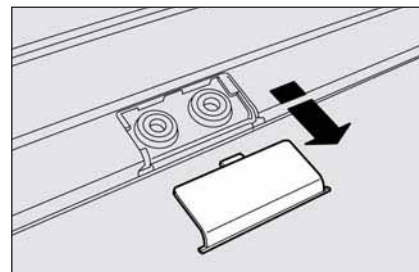

fig. 120
- ☐ for versions with sunroof: extract the tabs using the screwdriver provided in the kit to reach the fastening seats **fig. 120**;